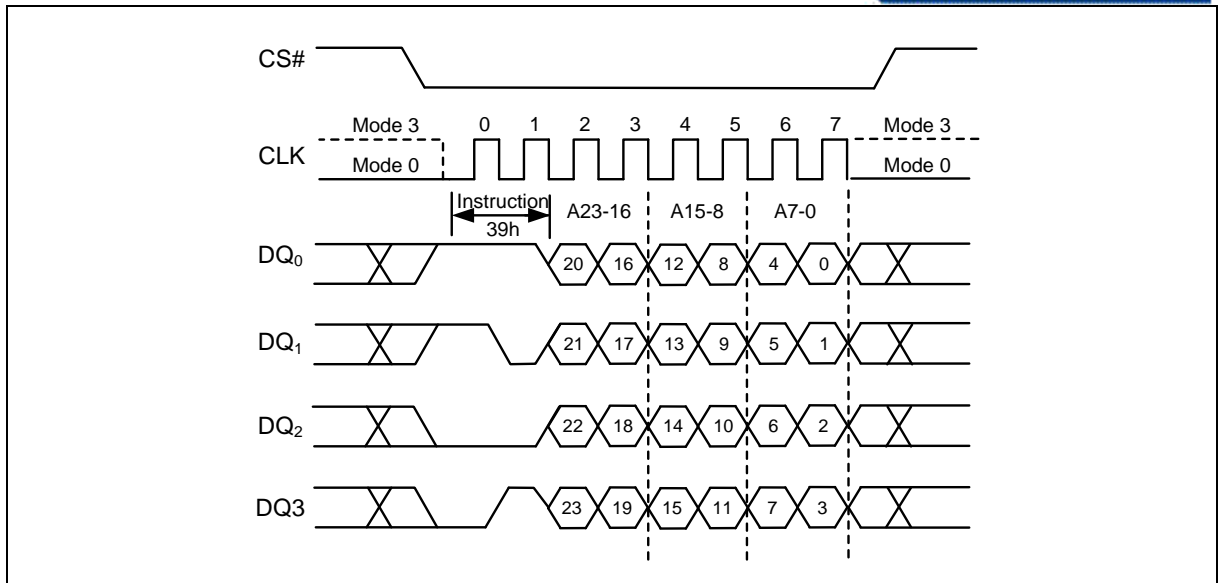

Figure 68 Individual Block/Sector Unlock Instruction (QPI Mode)
To read out the lock bit of a specific block or sector as illustrated in Figure 12, an Read Block/Sector Lock command must be issued by driving CS# low, shifting the instruction code "3Dh" into the Data Input (DI) pin on the rising edge of CLK, followed by a 24-bit address and 8-bit data out, then driving CS# high. The Block/Sector Lock bit value will be shifted out on the DO pin at the falling edge of CLK with most significant bit (MSB) first as shown in Figure 68. If the least significant bit (LSB) is 1, the corresponding block/sector is locked; if LSB=0, the corresponding block/sector is unlocked, Erase/Program operation can be performed.